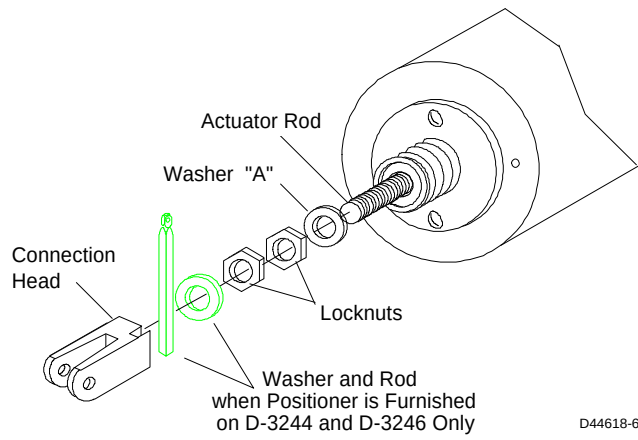

Figure 6: Securing Boot Kit
6. Attach Washer "A" over the boot assembly and secure it in place with one locknut as shown in Figure 6.